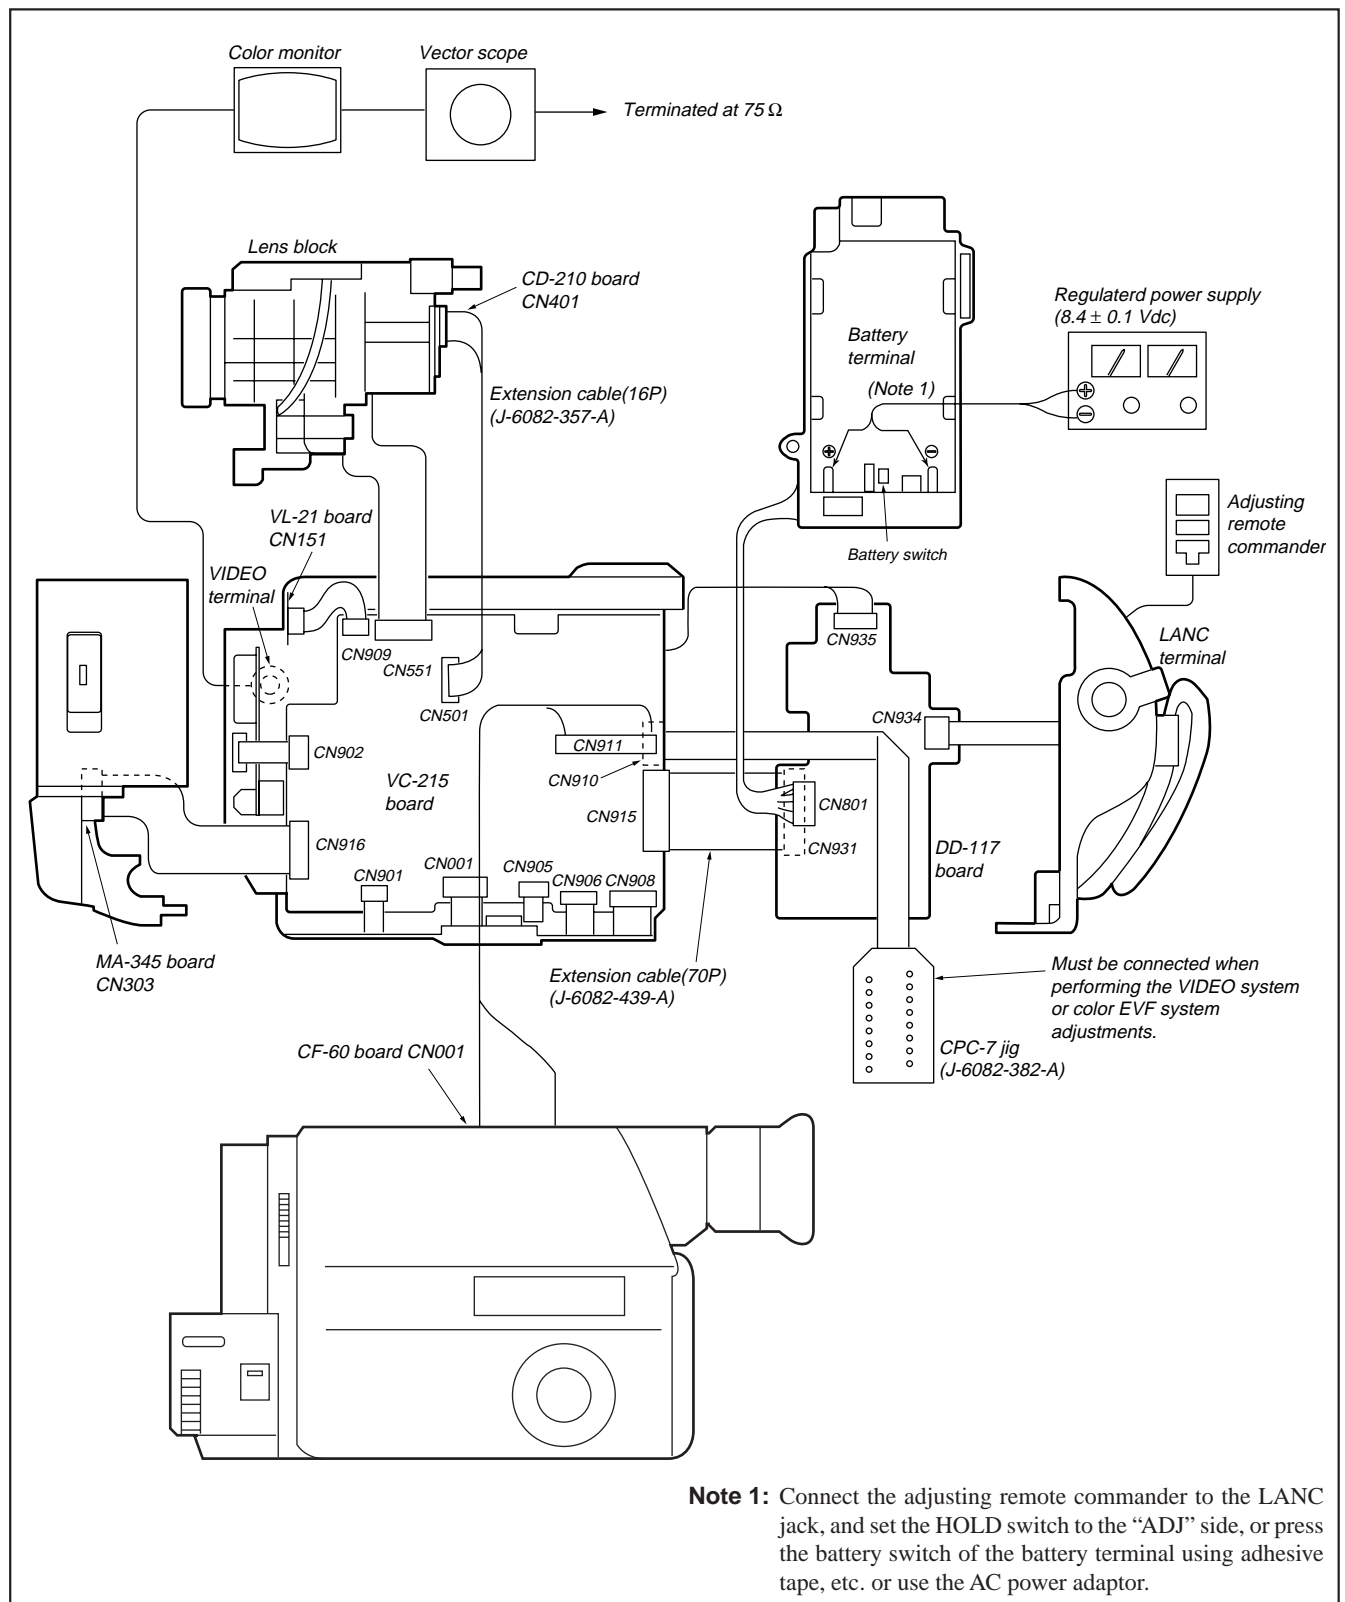

Fig. 5-1-3.
- 1) Connect the equipment for adjustments according to Fig. 5-1-3, 4.